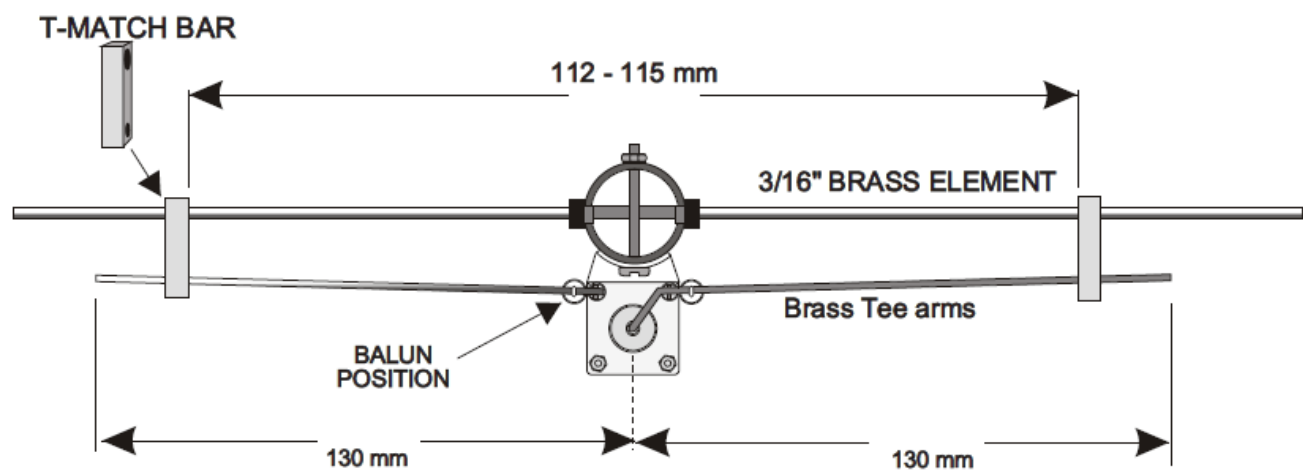

FIGURE 4.
6) The driven element and T-Match assembly are built as shown in Figures 4 & 5 and the photographs below.
7) Locate the two brass T-arms. Both are preformed- one is straight while the other is bent and on one end. Locate also the brass T-match straps, and position them on the brass driven element as shown in Figure 4.